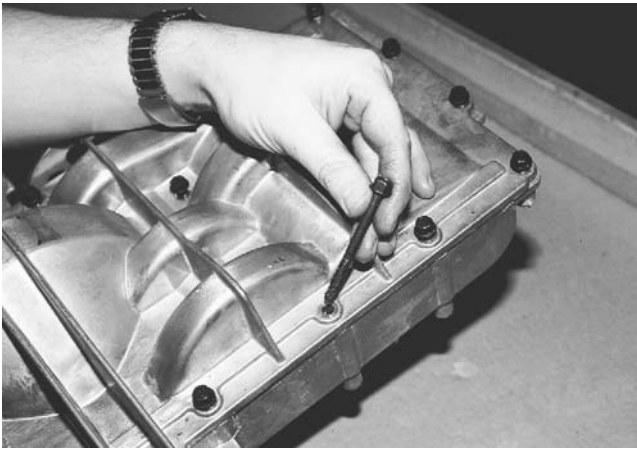

Figure 5-95.
57. Place the six long screws through the main bearing block in the housing, three on each side, and tighten by hand. This aligns the housing halves. See Figure 5-95.